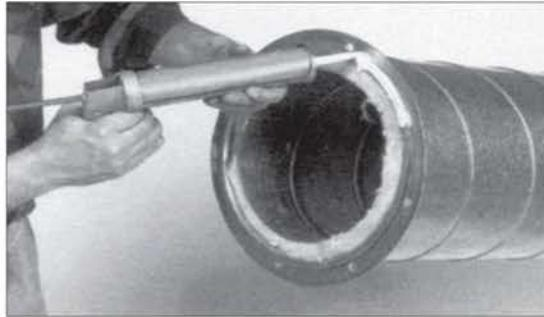

Figure 4. Applying gasketing material
2. apply approved gasketing material to the mating surface of the duct or fitting in which the coupling has been inserted, as shown in **Figure 4**. If the mating surface is a fixed angle ring, cover the face inside of any bolt hole pattern. If the mating surface is a Van Stone connector or flanged fitting, cover the flanged collar face.